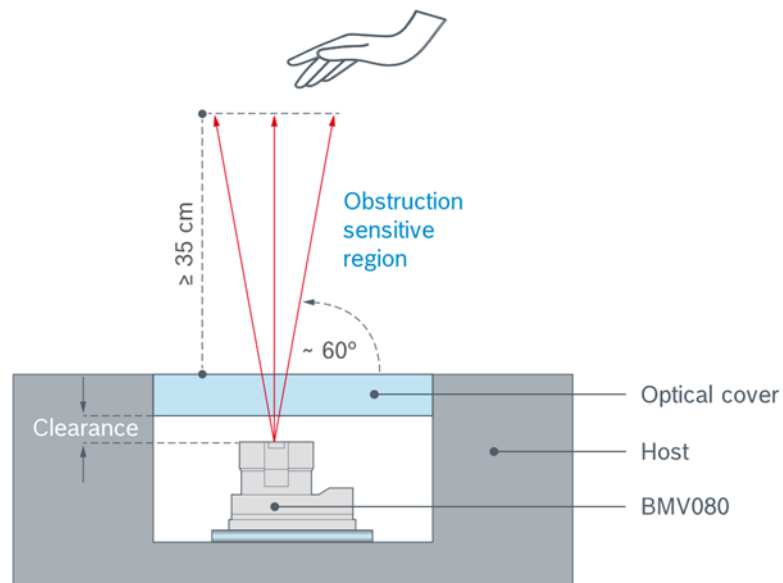

Figure 13: BMV080 integrated in a host system
- **Objects in front of the sensor (obstruction):** reflections caused by objects in the optical path can influence the sensor functionality. The BMV080 software detects these events as obstructions. While occasional obstruction (e.g., by waving hands) is filtered out in the BMV080 software and does not influence the sensor performance, static obstruction (i.e., a fixed object in the obstruction-sensitive region, see Figure 13) will influence the sensor functionality. When the BMV080 software detects a static obstruction, the PM_{2.5} calculation is not available, and an obstruction flag is returned. Therefore, static obstructions caused by the integration into the host shall be avoided.